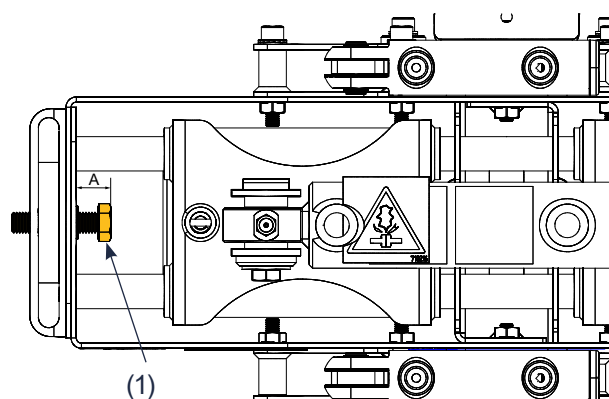

Fig 45.
2. Adjust with the stop screw (1) Fig 45 on each side